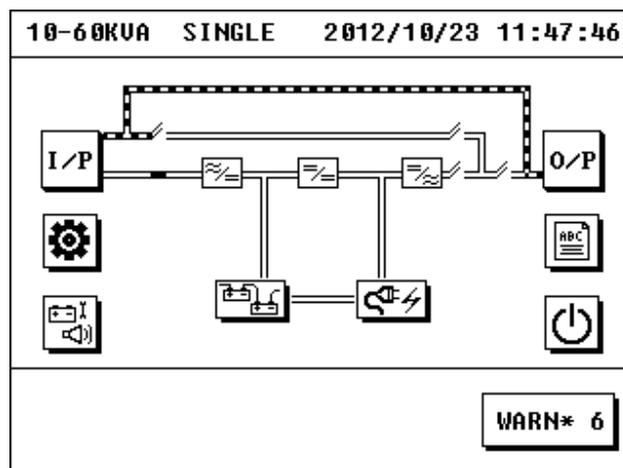

Figure 3.20 Maintenance Bypass Mode
2. Open the cover of maintenance bypass breaker, close the maintenance bypass breaker, cut off the output and battery breakers, and then the UPS enters into maintenance bypass mode. Its energy flow is shown in figure 3.20, and then cut off the input breakers and bypass breaker.